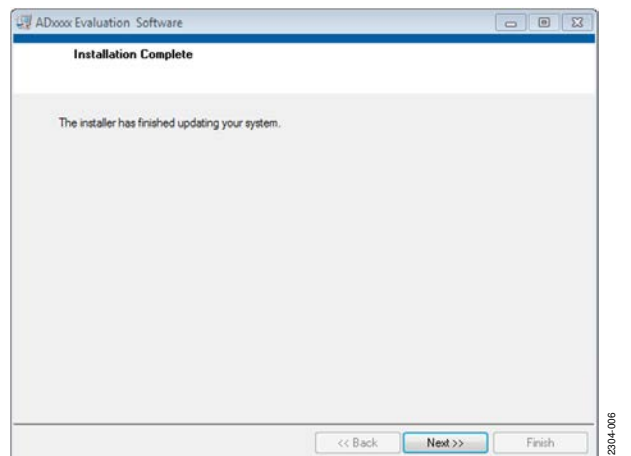

Figure 6. Evaluation Software Installation—Installation Complete
7. A dialog box informs you when the evaluation software installation is complete. Click **Next** to proceed with the installation of the drivers (see Figure 6).